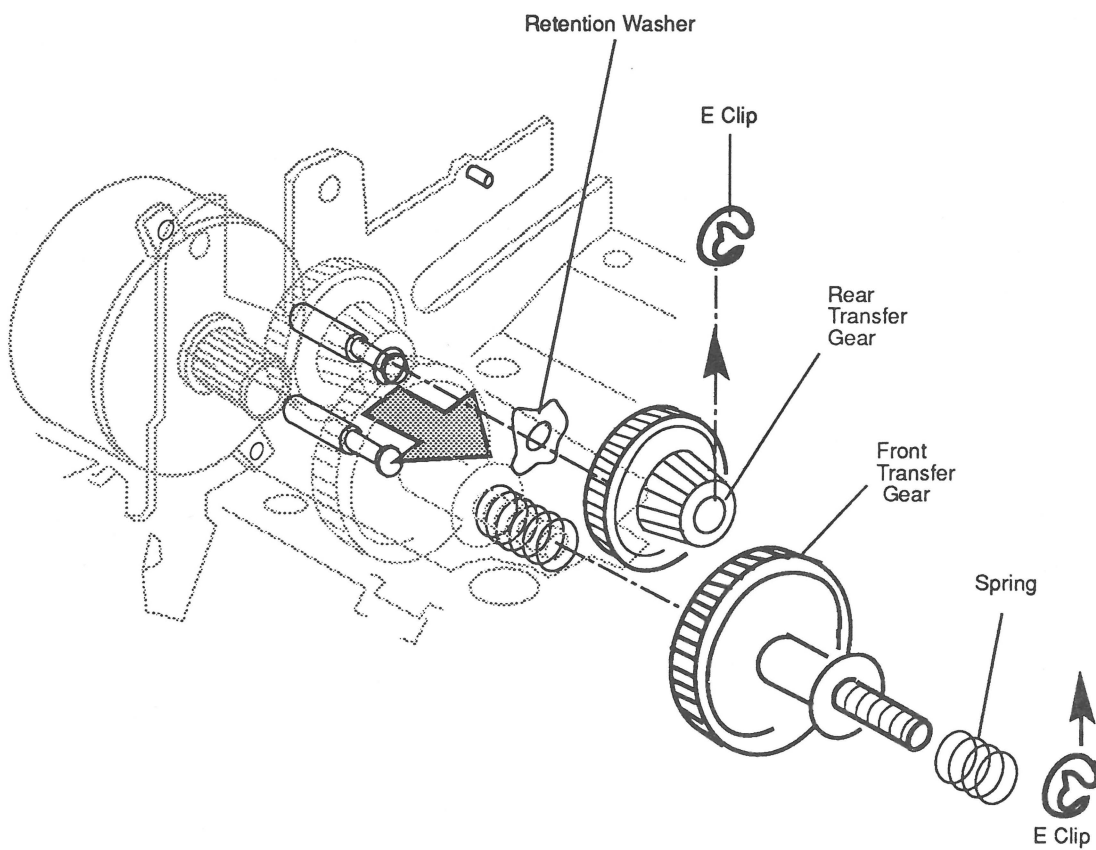

Figure 2-24 Transfer Gears
6. Using a small screwdriver, a hook, or a small pair of needlenose pliers, remove the "E" clip from the large gear (**Figure 2-24**). Be careful because the clip can jump off.